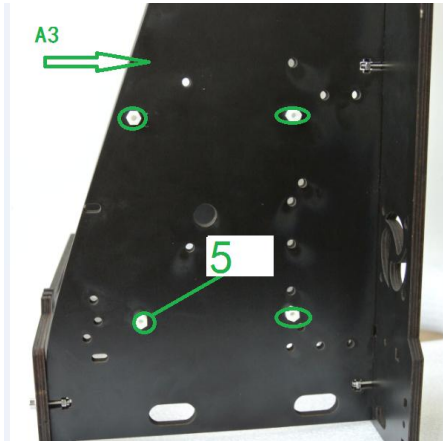
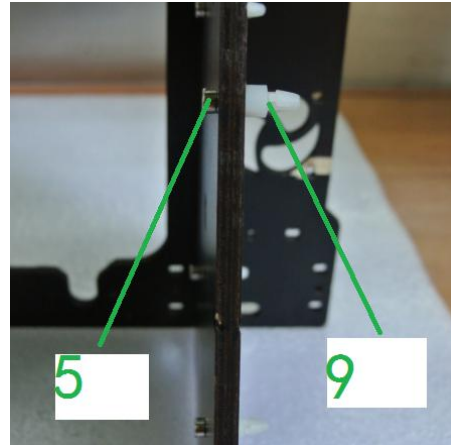
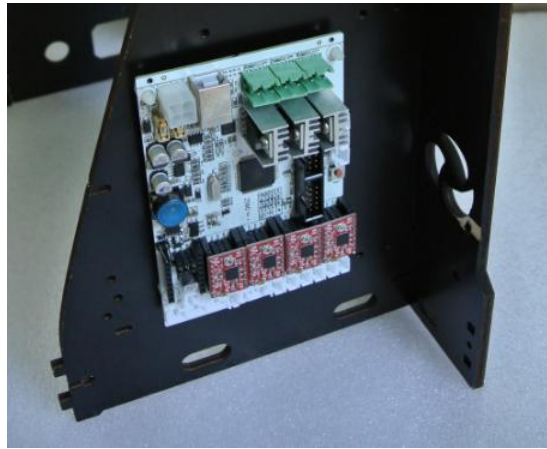

Figure 8.1
Figure 8.2 A3 Assembly
Figure 8.3
As shown in figure 8.1 and figure 8.2, insert the four support columns of motherboard into the A3 board on the left side of main framework with 4 pieces of ⑤ screws. Then follow figure 8.3, press motherboard ②③ with its holes in alignment with the 4 columns and pay attention to the installation direction.